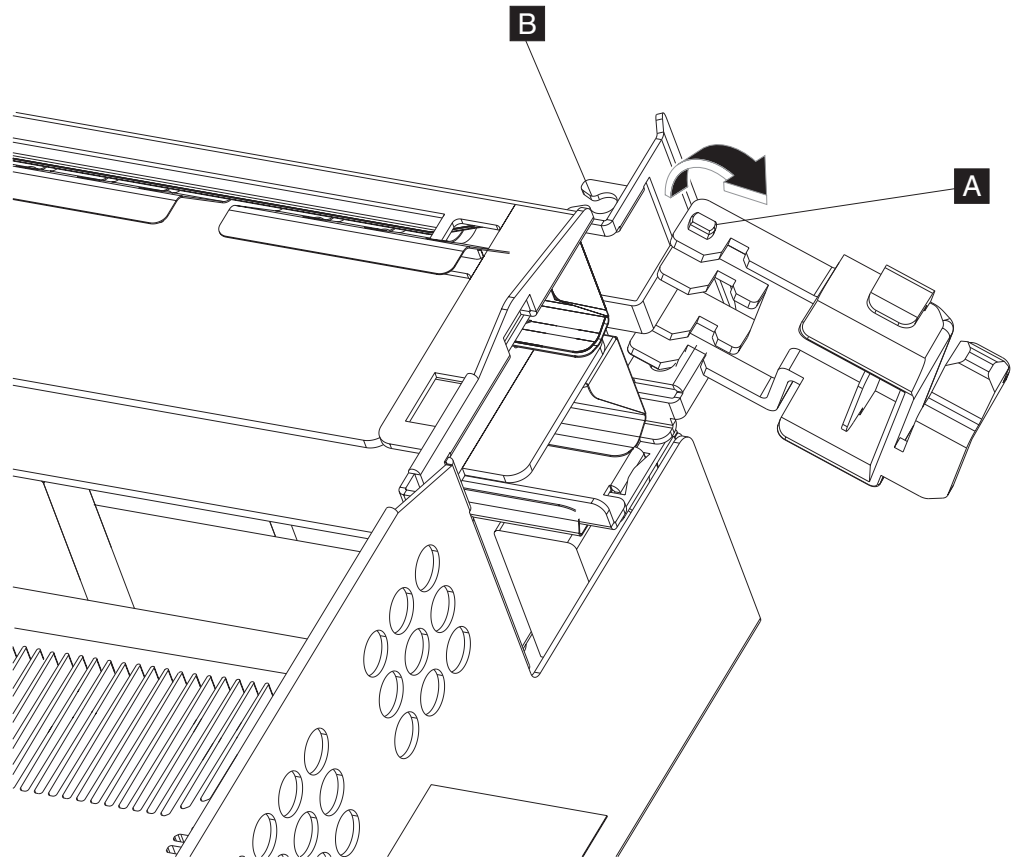

Figure 28. Removing the I/O module latch
2. Press down on the top locking tab of the I/O module latch (**A** in Figure 28) and pivot the latch downward, out of its sockets (**B**).